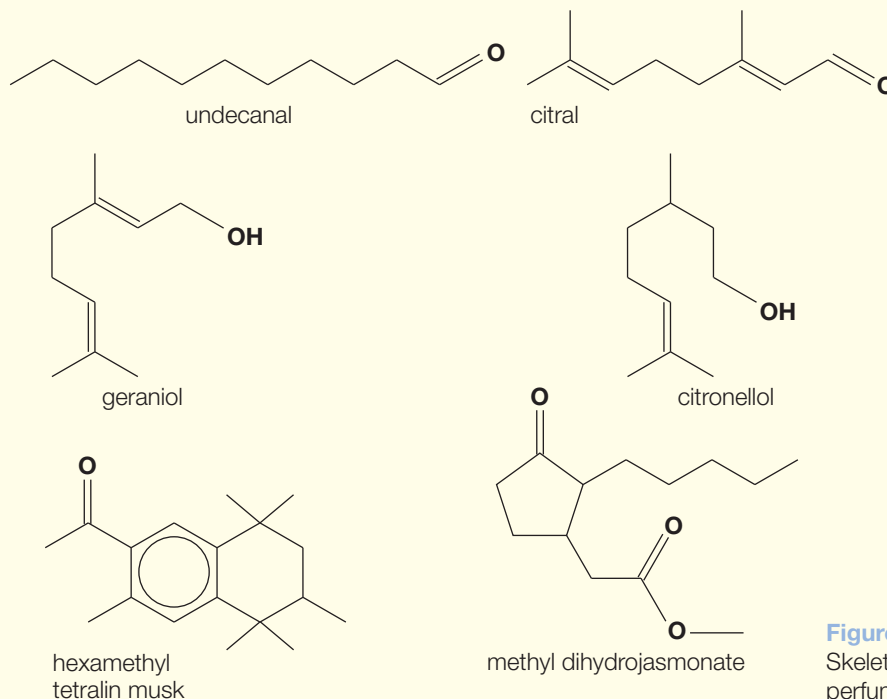

Figure 2.8 ◀
- 3 Identify the carbonyl compounds among the compounds shown in Figure 2.8. In each case state whether the compound includes the functional group of an aldehyde or of a ketone.